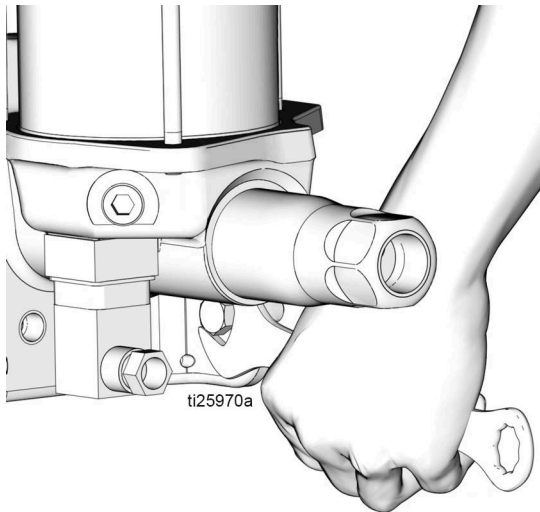

FIG. 11
5. Remove mounting bolts (FIG. 11) and remove the pump from service.